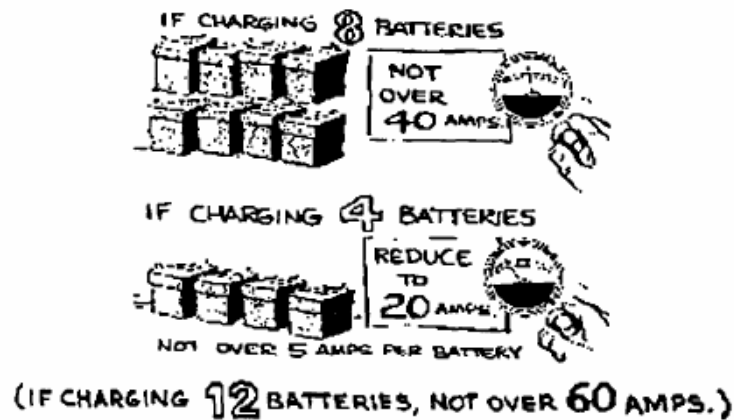

Figure 3-21
- (1) Make sure battery charger is off.
- (2) Connect positive (+) lead of the charger to the positive post of the battery.
- (3) Connect negative (-) lead of the charger to the negative post of the battery.
- (4) Turn charger on and begin charging the battery.
- (5) Check battery voltage. Use the voltmeter section of the multi meter on the distribution panel to check battery voltage. Connect voltage leads to the 50 volt connections. Using these leads, touch the negative (-) and positive (+) posts of each battery under charge. A reading of approximately 14 volts should be shown at the terminal of each battery under charge. If one or more batteries shows less than 14 volts, perform the following checks.
- (6) Adjust charging amperage. Use the ammeter charging rate control knob to adjust ammeter amperage as near as possible to 5 amperes for each battery on charge (Figure 3-21).